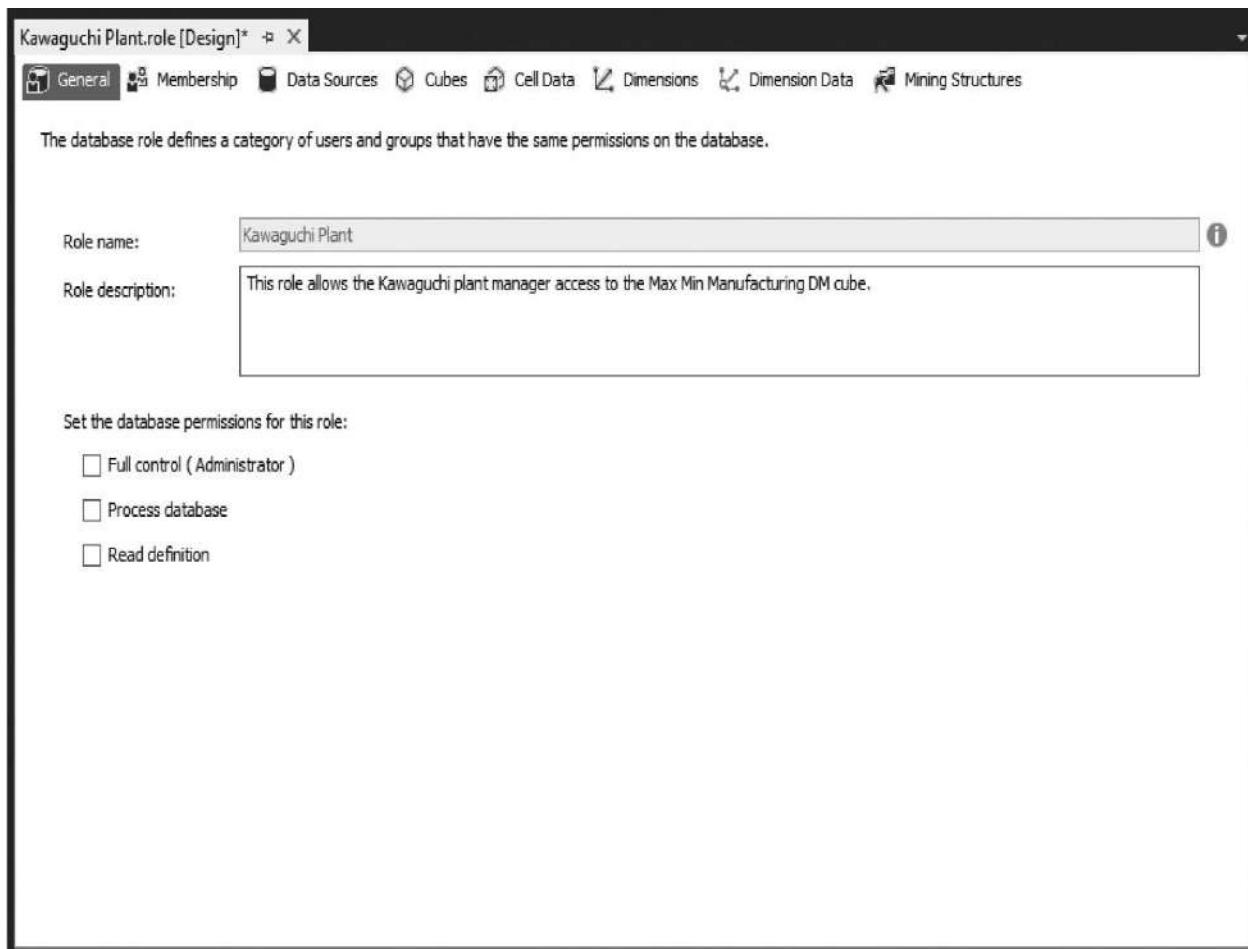

Figure 13-20 The General tab of the Role Design tab
8. The items under “Set the database permissions for this role” determine whether members of this role can perform these administrative tasks or read the definition of the cube. Uncheck any of these check boxes that are checked by default. The General tab of the Role Design tab is shown in Figure 13-20 .